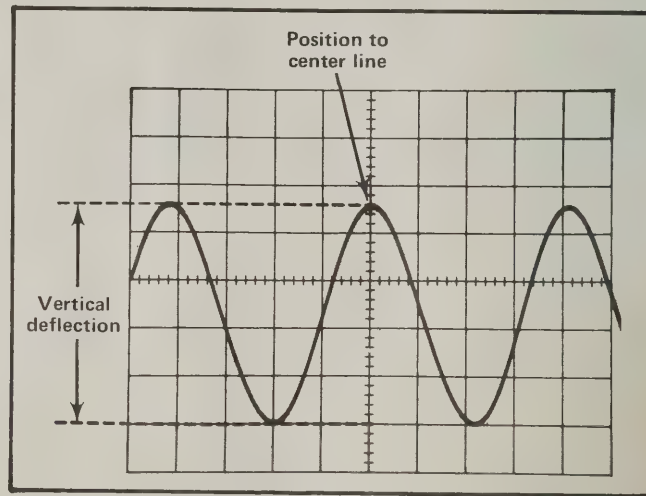

Fig. 2. Measuring peak-to-peak voltage of a waveform.
5. Turn the vertical POSITION control so the lower portion of the waveform coincides with one of the graticule lines below the center horizontal line, and the top of the waveform is on the viewing area. Move the display with the horizontal POSITION control, so one of the upper peaks lies near the center vertical line (see Fig. 2).
Example. Assume a peak-to-peak vertical deflection of 4.6 divisions (see Fig. 2) a VOLTS/DIV switch reading of .5.